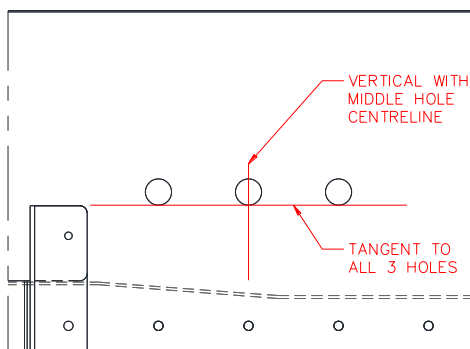

Figure 3: View looking aft at the forward face of the firewall.
7. Using a non-destructive method, mark two lines on the firewall, as per Figure 3, using the three existing 7/16" (0.4375") diameter holes as a reference.